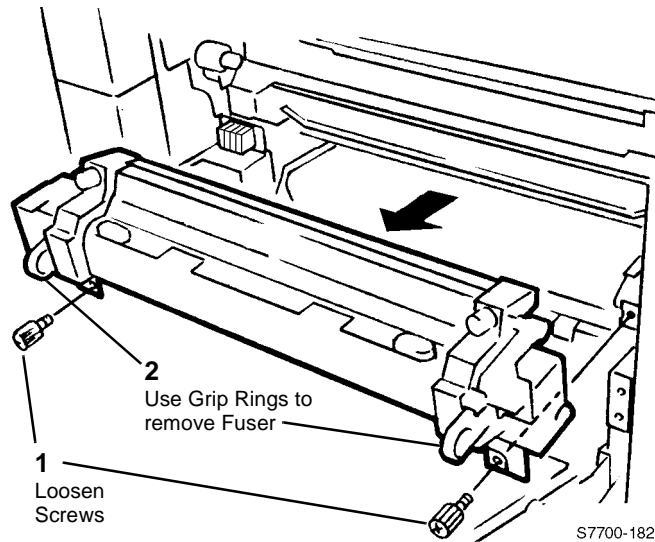

Figure 1 Removing Fuser Module
2. Remove Fuser Module (Figure 1).